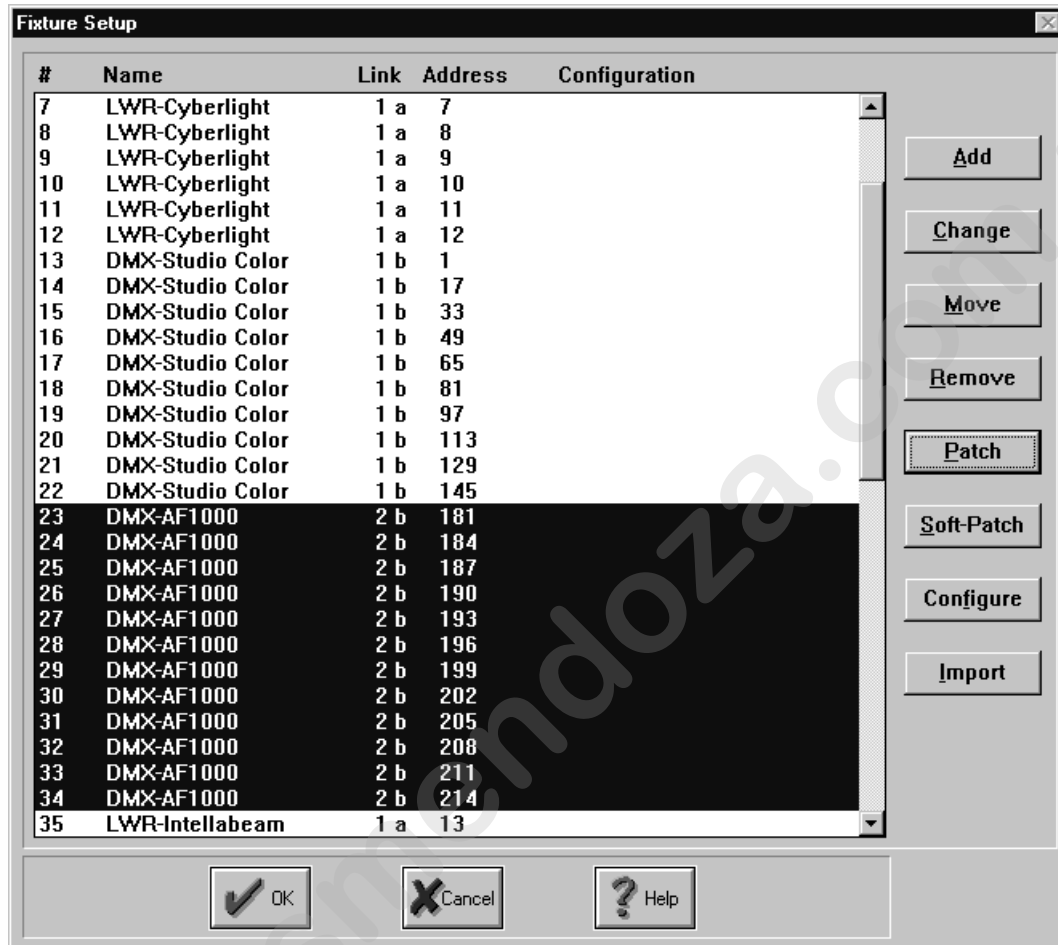

Figure 4.16. Patched AF1000s Example
6. Click on the **OK** button to complete the procedure. The **Fixture Setup** dialogue box now indicates the patched *AF1000* fixtures. Refer to Figure 4.16.